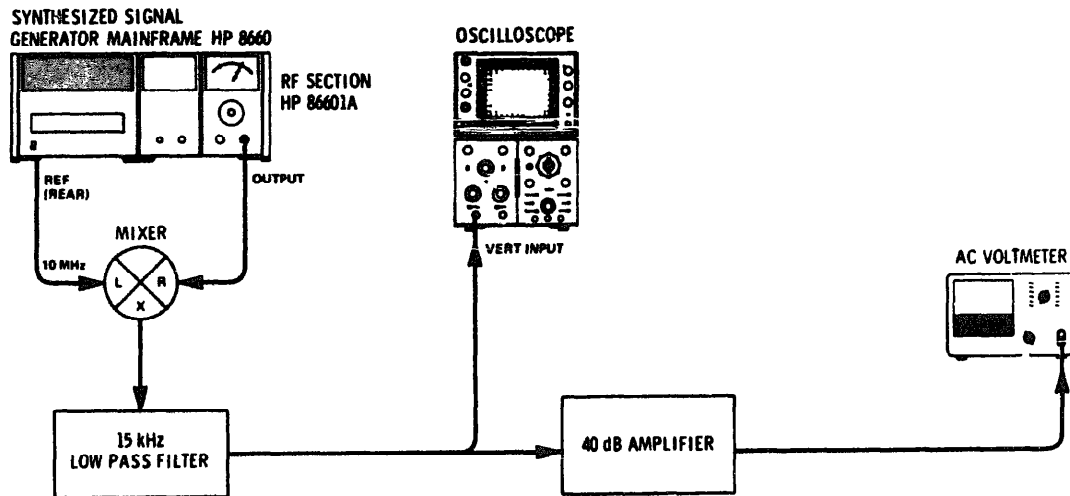

Figure 4-8. Signal-to-AM Noise Ratio Test Setup
1. Connect the equipment **as shown in Figure 4-8.**